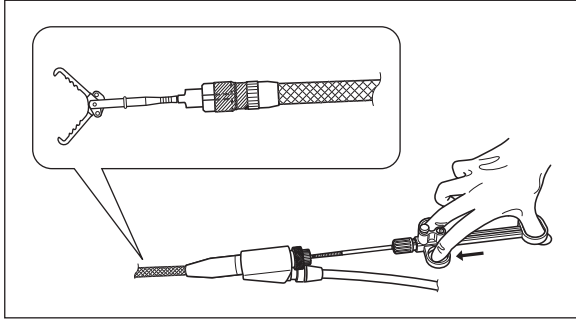

Figure 3.18
1. Push the slider to open the forceps section so that it gets ready to hold the foreign object (see Figure 3.18).